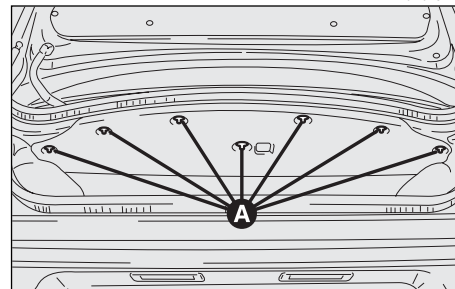

fig. 49
- Turn the fastening buttons (**A-fig. 49**) until they release and lower the trim.
— Re-position the trim correctly and fasten with its buttons (**A**-fig. 49).